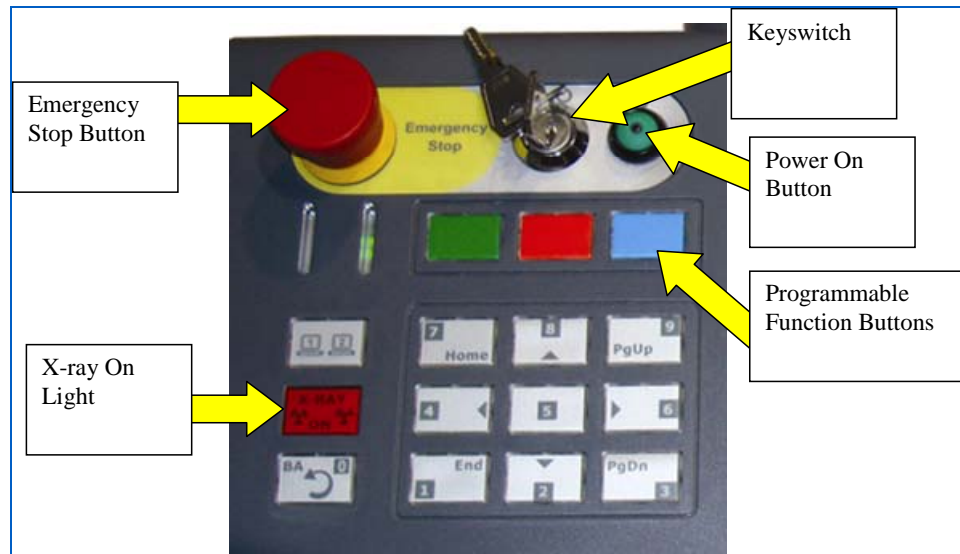

Figure 80: Emergency Stop, Key switch, Indicator Lights and Keypad
2. Rotate the key switch on the power control panel and push the “Power On” button (Figure 80)